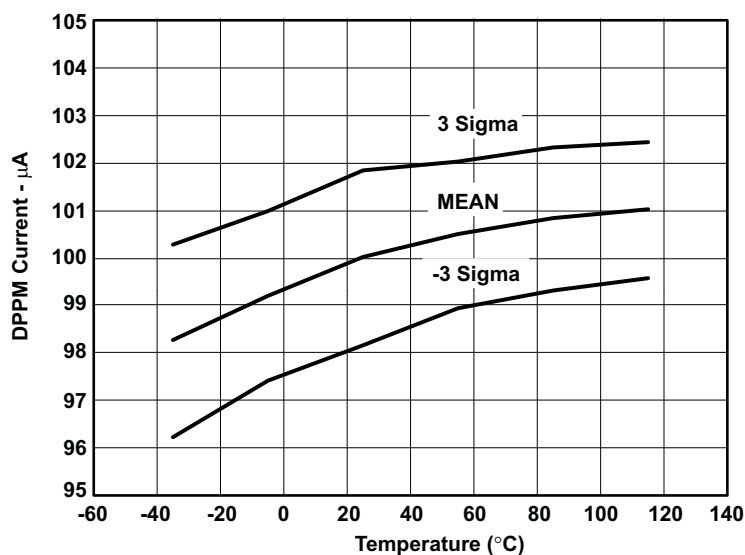

Figure 5. DPPM Current — IDPPM (μA) vs Temperature (°C)
Idppm shown is shown Figure 5.
4. Calculate the minimum Vdppm-out threshold from the selected resistor in step 3. $V_{\text{DPPM-OUT-36k1\%-MIN}} = R_{\text{DPPM-MIN}} \times I_{\text{DPPM-MIN}} \times \text{SF}_{\text{MIN}} = (0.99 \times 36\text{k}) \times 98\mu\text{A} \times 1.139 = 3.978\text{ VDC}$. From Figure 5, the minimum DPPM current was taken at 20°C, because it is unlikely that during full-load operation that the IC temperature would be any colder.